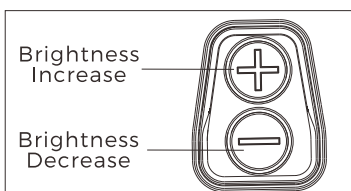

Fig 6
1. Switch on: Press and release either brightness button ("+" or "-") to turn on the sight. See Fig 6.